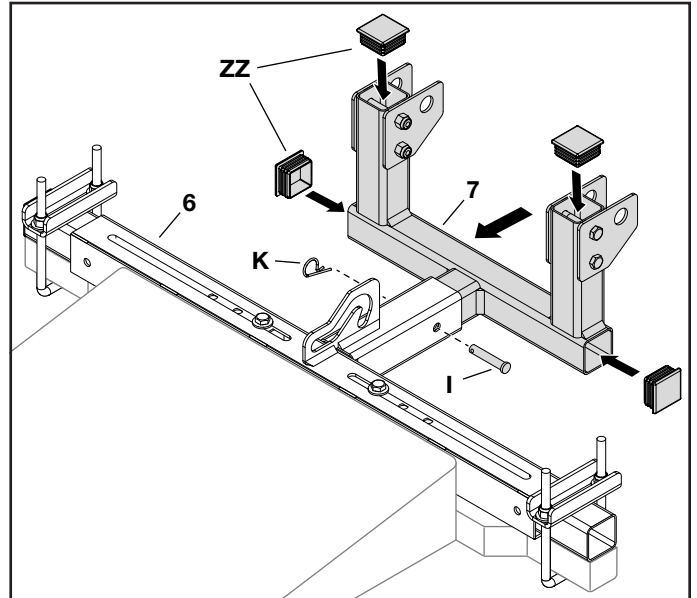

FIGURE 4
STEP 4: (SEE FIGURE 4)
- Insert the blade mount assembly (7) into the hitch mount assembly tube (6).
- Secure with a clevis pin (I) and a hair cotter pin (K).
- Insert the square plugs (ZZ) into the blade mount assembly (7).